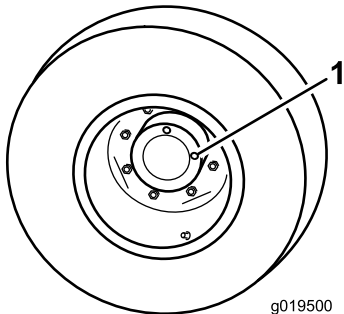

Figure 53
1. With machine on level surface, position the wheel so that 1 check plug is at the 12 o'clock position and the other is at 3 o'clock position (Figure 53).
1. Check/drain plug (2)
2. Remove the plug at the 3 o'clock position (Figure 53).